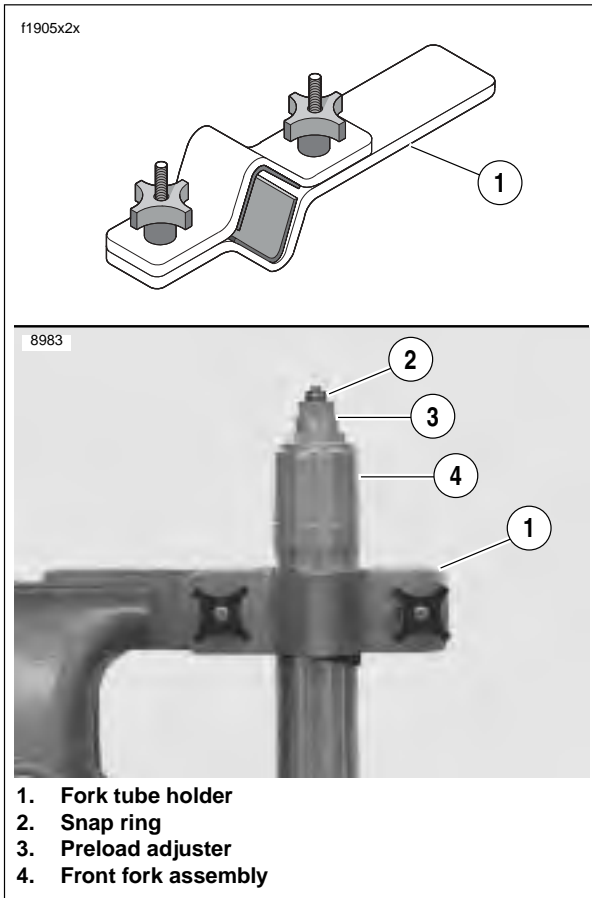

Figure 2-66. Fork Tube Holder (HD-41177)
2. See Figure 2-66. Clamp the FORK TUBE HOLDER TOOL (1) (Part No. HD-41177) in a vise and install the upper part of the front fork in the holding tool.
3. Remove snap ring (2).